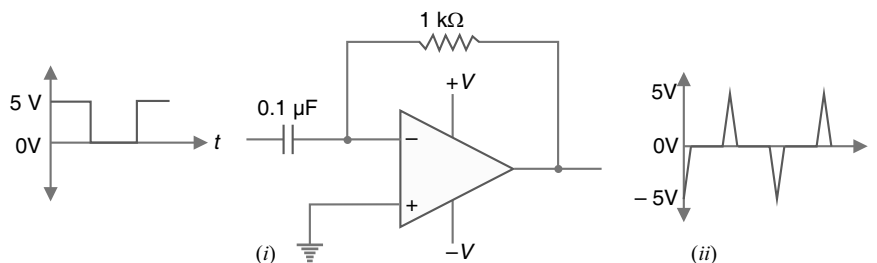

Fig. 23.90
**Example 23.54.** Fig. 23.90 (i) shows the square wave input to a differentiator circuit. Find the output voltage if input goes from  $0V$  to  $5V$  in  $0.1$  ms.
The signal quickly returns to zero as the input signal becomes constant. The output will be as shown in Fig. 23.90 (ii).